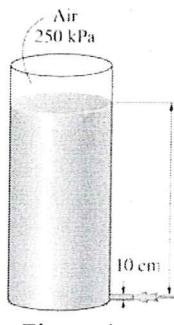

Figure 4
- A pressurized tank of water has a 10-cm diameter orifice at the bottom, where water discharges to the atmosphere (see figure 4). The water level is 2.5 m above the outlet. The tank air pressure above the water level is 250 kPa (absolute) while the atmospheric pressure is 100 kPa. Neglecting frictional effects, determine the initial discharge rate of water from the tank.